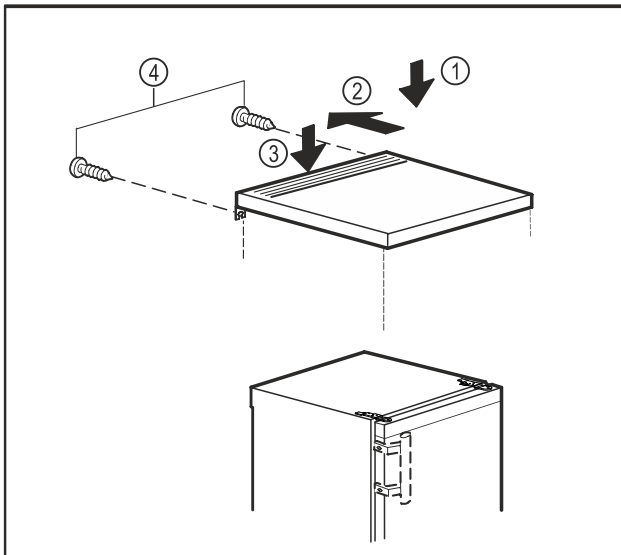

Fig. 19
- ▶ Place the table top on the device. Fig. 19 (1)
- ▶ Push the table top backwards. Fig. 19 (2)
- ▶ Press the table top down at the back. Fig. 19 (3)
- ▶ Tighten the screws on the rear end. Fig. 19 (4)